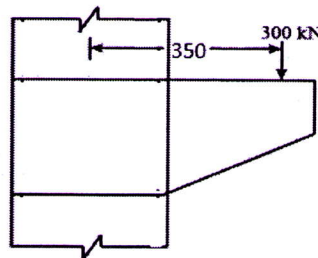

Fig. 1
- 4 a) Design a column to support a factored load of 1200 kN. The length of the column is 4 m and both the ends are hinged. Use steel of grade Fe 410. (10)
- b) Write the detailed procedure for design of a bolted gusset base for a steel column. (5)
- 5 a) A hall of inside dimensions 6m x 12m is provided with a 100 mm thick RCC slab. Rolled steel joists are placed parallel to the 6m side to support the roof slab. The spacing of the beams are 3.0 m c/c. Design the steel I-beam if the width of the support is 150 mm. Live load = 2 kN/m2, floor finish = 1 kN/m2. (15)
- 6 a) An ISWB350@558.19 N/m has been used as a simply supported beam over a span of 6.5m. The beam has a cover plate of 200 mm width and 8 mm thickness on top and bottom flanges. Determine the safe uniform load that the beam can carry in flexure if the compression flange is restrained against lateral buckling. (10)
- b) Illustrate the different elements of a welded plate girder with sketches. (5)
- 7 a) A roof truss shed is to be built in Patna(Bihar) for an industry. The size of shed is 50m x10m and the height of building is 5m at the eaves. The building is on open land on a fairly level topography. Determine the basic wind pressure. (5)
- b) A purlin is to be designed to support a GI sheet as roofing material for a truss spaced at 4 m c/c. Purlins along the principal rafters are arranged at a spacing of 2 m c/c. The slope of the principal rafter is 20 degrees. Design a channel section purlin assuming dead load on the purlin as  $0.05 \text{ kN/m}^2$ , live load as  $2 \text{ kN/m}^2$  and wind load as  $0.5 \text{ kN/m}^2$ . (15)
- 8 a) A bracket is bolted to the flange of the column ISHB 350@724N/m as shown in Fig.1 below. The bracket plate is 10 mm thick, eccentricity may be taken as 350 mm and the applied load is 300 kN. Design the connection using M20 bolts of grade 4.6. (14)